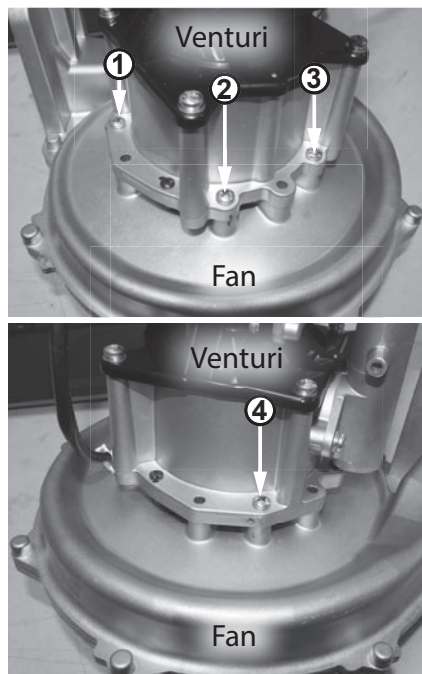

Figure 104 - Locate venturi and fan screws
- 13** Locate the large four screws securing the venturi to the fan. Figure 104 shows venturi facing upright for ease of removing screws.